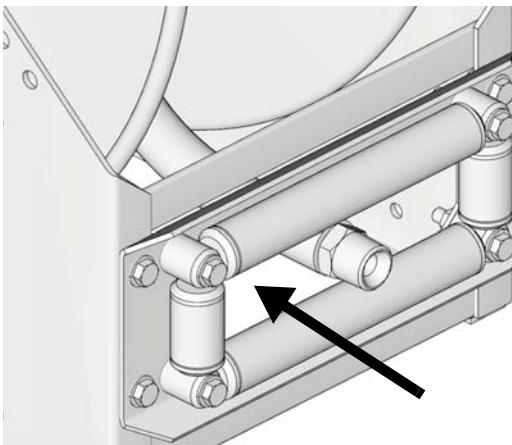

FIG. 85
5. Feed loose end of hose through the hose rollers and manually wrap and secure hose onto reel spool (FIG. 85).